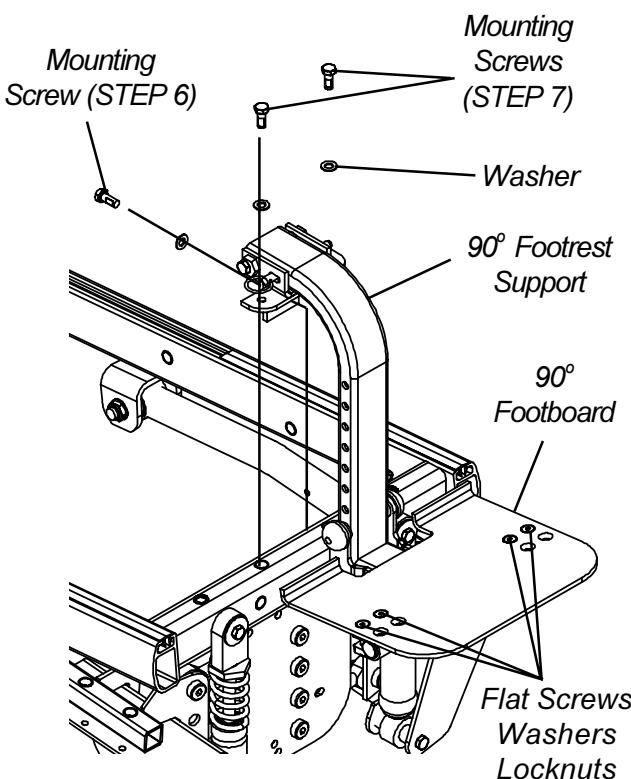

FIGURE 14 - INSTALLING 90° FOOTBOARD
INSTALLING 90° FOOTBOARD (FIGURE 14)
5. Position the 90° footboard on the base frame as shown in FIGURE 14.
6. Loosely install one (1) mounting screw into the back of the footboard and into the base frame.
7. Loosely install two (2) mounting screws and washers through the top of the footboard and into the base frame.
8. Torque all three (3) mounting screw between 15 and 19-foot pounds.
12. Install the two (2) end caps provided into the ends of the seat frame where the telescoping front rigging supports were mounted.